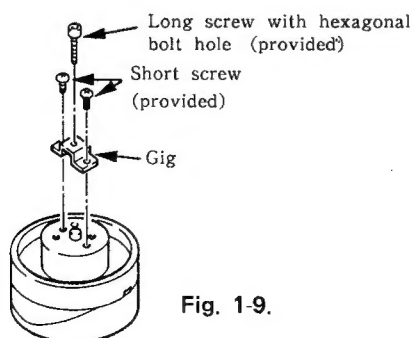

Fig. 1-9.
- ③ While referring to Fig. 1-9, use the two short screws supplied with the jig (which comes with the spare rotating drum) to fasten the jig to the drum. Then screw in the long screw until the drum is removed.